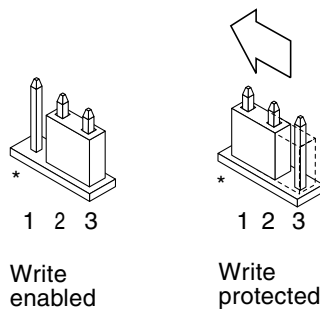

FIGURE 4-5 Moving the Write-Protect/Enable Jumper Back to the Write-Protect Position
- f. Reset the J2003 write-enable/protect jumper to the write-protect position. In the write-protect position pins 1 and 2 are jumpered (see FIGURE 4-1, FIGURE 4-2, FIGURE 4-5, and TABLE 4-4). You may need to remove a plug-in card from the system before resetting the jumper if the card is covering the jumper. Pin 1 is noted by an asterisk (*).